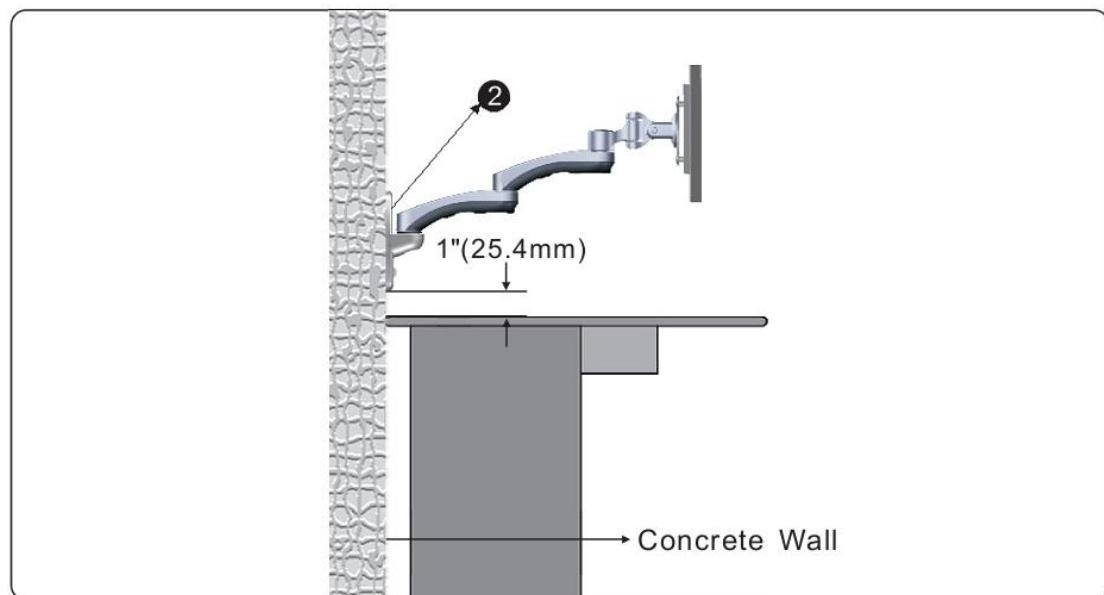

Figure 1-5
1. To determine Wall Plate (2) mounting height, add 1" (25.4mm) to the mounting height from the top of the table (**See Figure 1-5**).